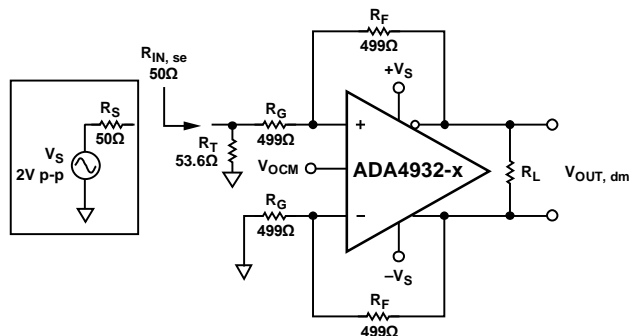

Figure 60. Adding Termination Resistor, R_T
3. Figure 60 shows that the effective R_G in the upper feedback loop is now greater than the R_G in the lower loop due to the addition of the termination resistors. To compensate for the imbalance of the gain resistors, add a correction resistor (R_{TS}) in series with R_G in the lower loop. R_{TS} is the Thevenin equivalent of the source resistance, R_S , and the termination resistance, R_T , and is equal to $R_S || R_T$.